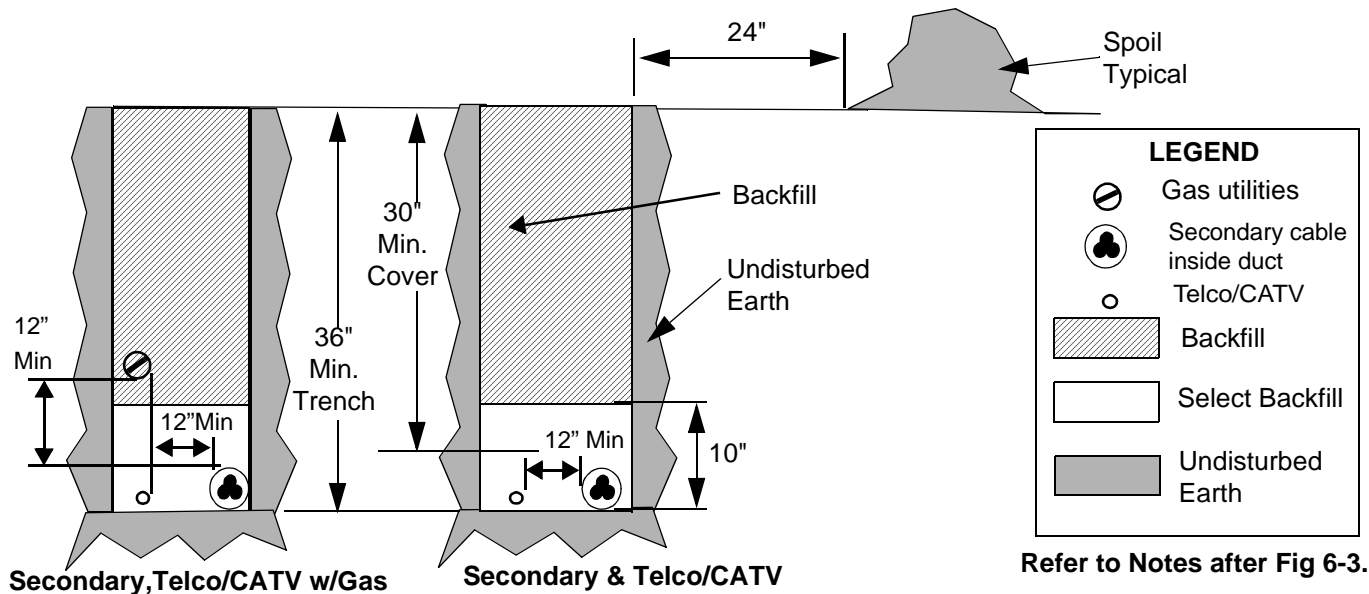
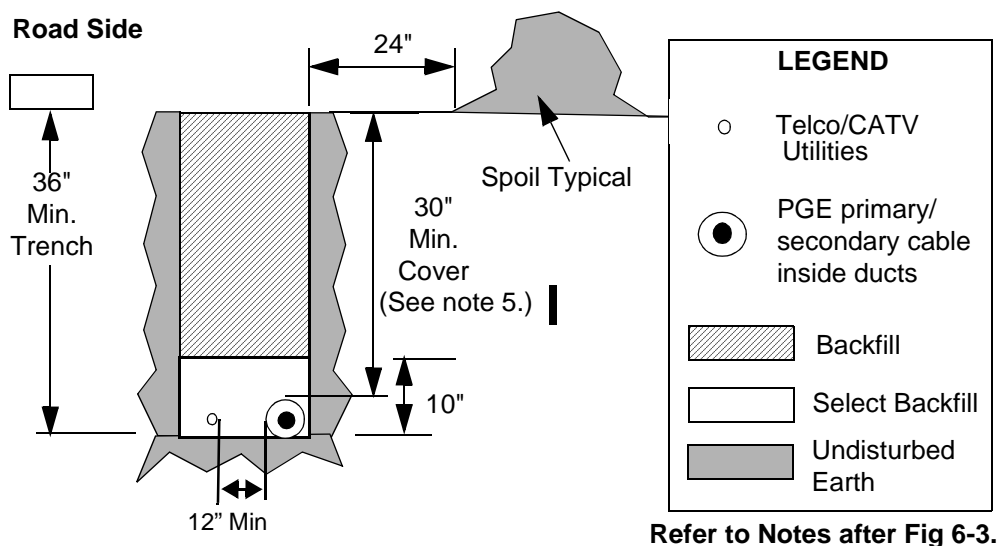
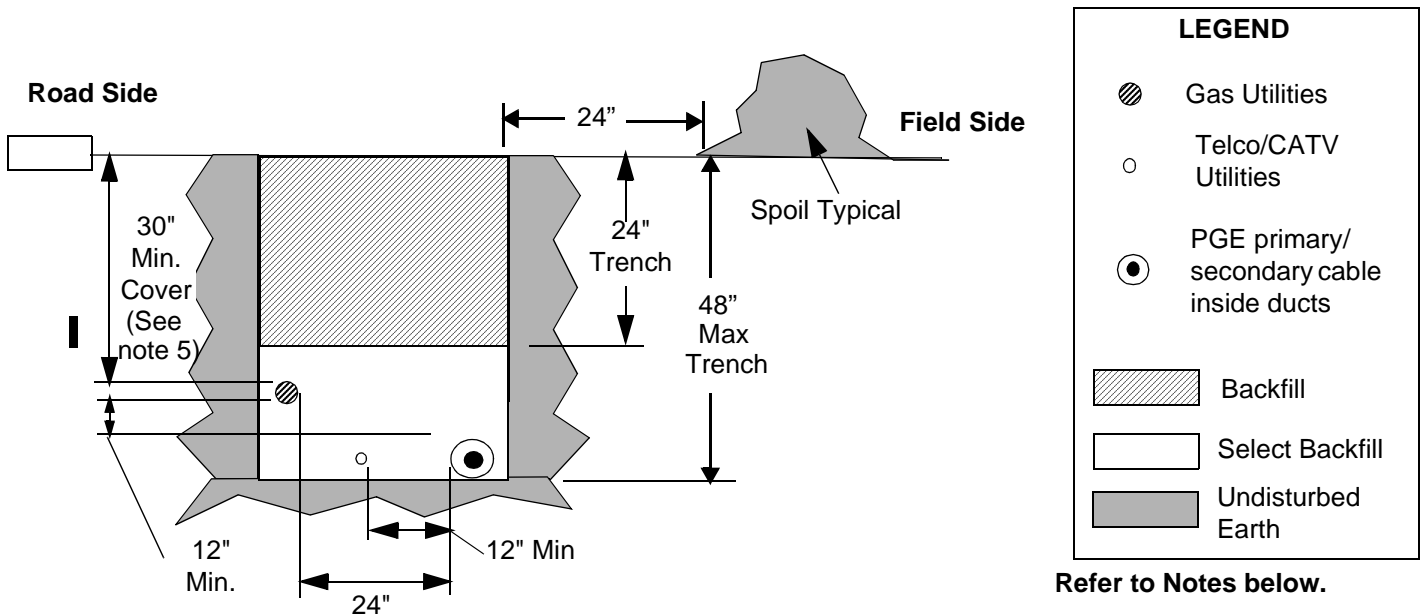

Figure 6-1 Service Trench
Figure 6-2 Joint Use Trench Without Gas
Figure 6-3 Joint Use Mainline Trench
When installing only service cable in the trench, follow "Service Trench" dimensions in Figure 6-1. When installing service cable with other telecommunication utilities (telephone, cable T.V.) follow "Joint Use Trench Without Gas" Figure 6-2 or "Joint Use Trench With Gas" Figure 6-3.
Trench depth shall include requirements for select backfill as necessary to protect cables installed in rocky soil conditions. Figures 6-1, 6-2, and 6-3 provide select back fill depth requirements.
NOTES (Figures 6-1,6- 2 & 6-3):
- c. See Figure 6-1, Figure 6-2, or Figure 6-3 for normal trench depth.